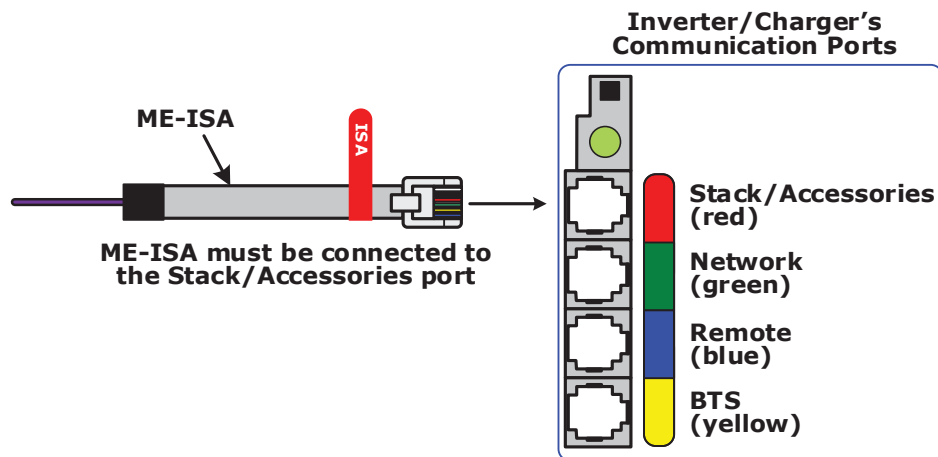

Figure 1, ME-ISA Connection to Inverter
2. The ME-ISA pigtail **must** be plugged into the Stack/Accessories (red) port on the inverter (see Figure 1).